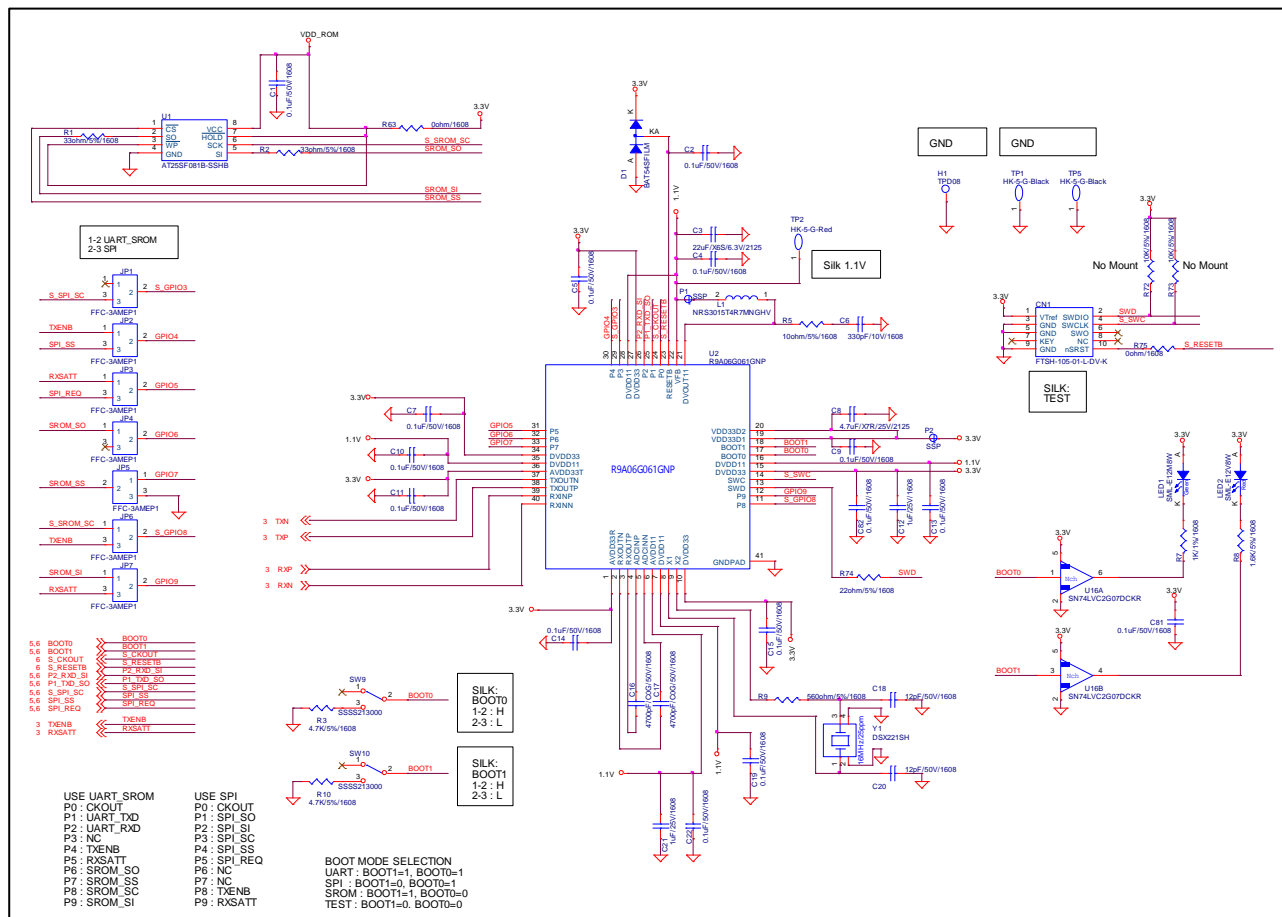
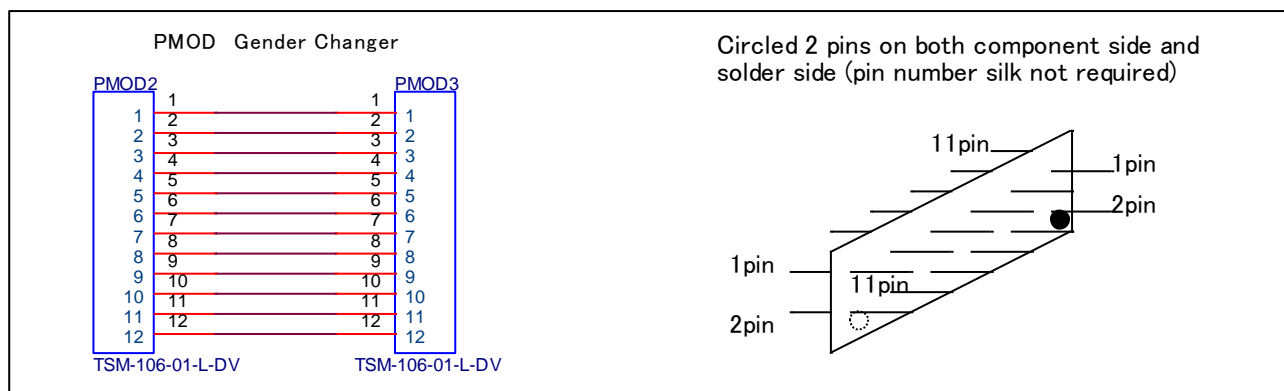

Figure 7-1 DC-PLC board (R9A06G061 peripheral circuit)
Figure 7-8 PMOD conversion board
- Circuit design examples are shown in Section 7.1 (Figure 7-1-Figure 7-8), and Bill of materials examples are shown in Section 7.2 (Table 7-1-Table 7-5).